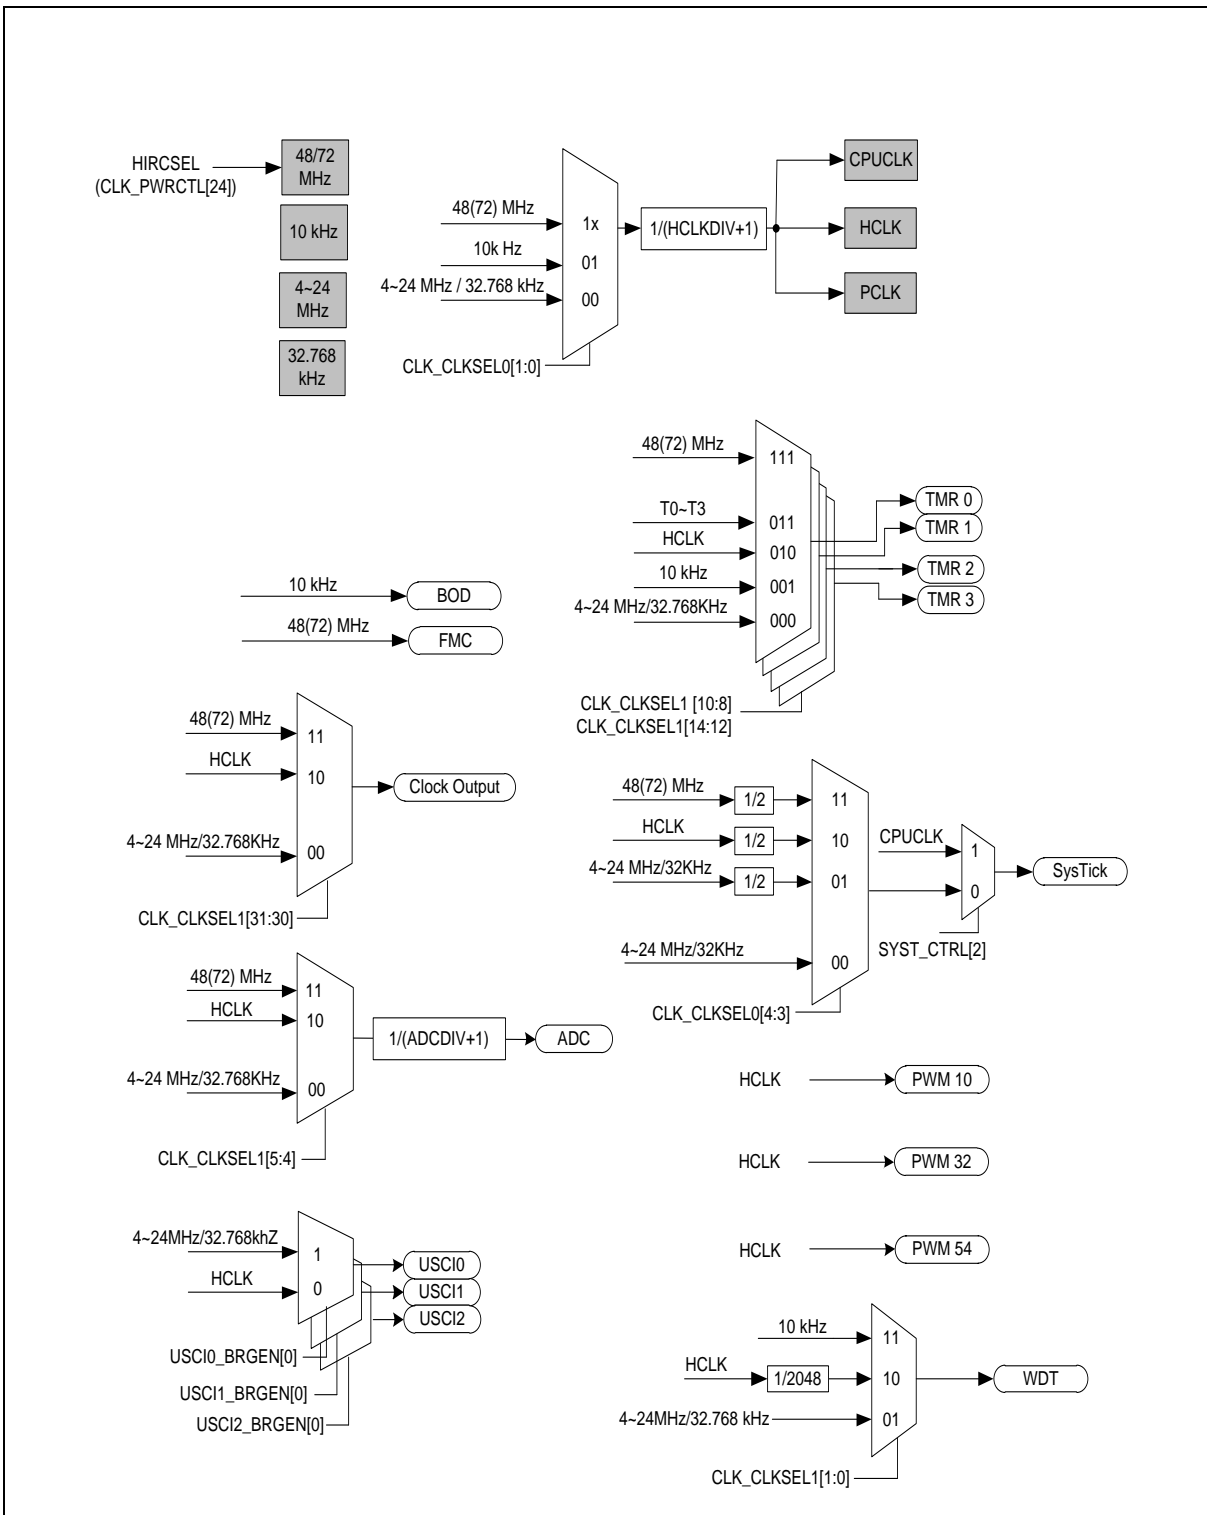

Figure 6.3-1 Clock Generator Global View Diagram
The clock controller generates clocks for the whole chip, including system clocks and all peripheral clocks. The clock controller also implements the power control function with the individually clock ON/OFF control, clock source selection and clock divider. The chip enters Power-down mode when the Cortex®-M0 core executes the WFI instruction only if the PDEN (CLK_PWRCTL[7]) bit set to 1. After that, chip enters Power-down mode and waits for wake-up interrupt source triggered to exit Power-down mode. In Power-down mode, the clock controller turns off the 4~24 MHz external high speed crystal (HXT) and 48(72) MHz internal high speed RC oscillator (HIRC) to reduce the overall system power consumption. Figure 6.3-1 shows the clock generator and the overview of the clock source control.